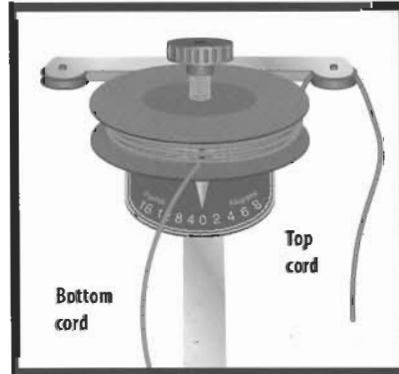

Figure 3
5. Thread the end of the top cord through the right pulley from left to right (Figure 3). Pull the top cord down to wrap the other section of the cord around the drum.